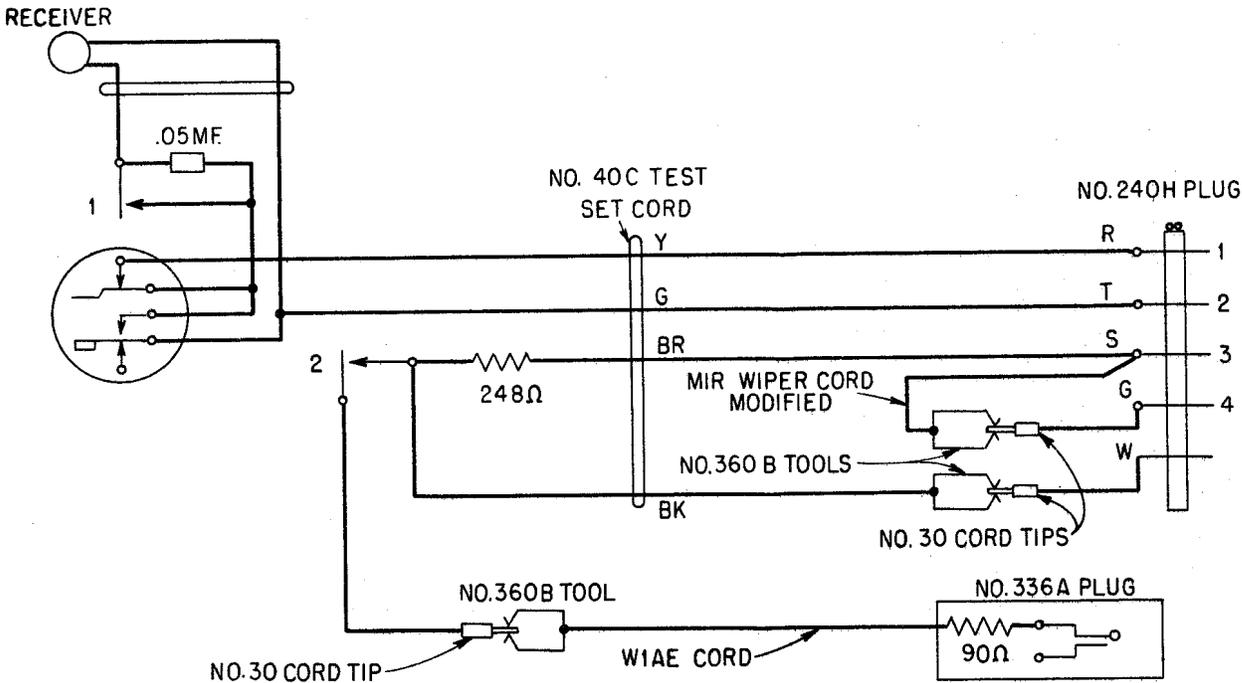

Fig. 1 - Schematic of No. 40C Test Set and Showing Modification of Leads at No. 240H Plug
2.01 No. 40C Test Set with a No. 240H Plug, using a No. 30 Cord Tip, a MIR Wiper Cord, a No. 132 Cord Tip and a No. 360B Tool modified per Fig. 1.
- 2a If testing local selectors - Disconnect No. 360B tool of MIR cord from No. 4 terminal of modified No. 240H plug shown in Fig. 1.
3b	If testing toll selectors - Connect No. 360B tool of M1R cord to No. 4 terminal of modified No. 240H plug shown in Fig. 1.
- 5 Connect No. 336A plug of No. 40C test set to a 48V battery supply jack located on selector frame under test. Connect cord of No. 336A plug to No. 40C test set by means of a No. 360B tool and an associated No. 30 cord tip as shown in Fig. 1.